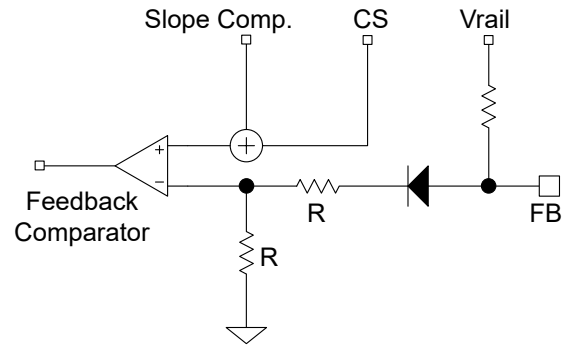

Figure 25. Feedback Pin Internal Behavior Circuit
The Feedback (FB) pin is used for voltage feedback looping. The feedback signal is provided from the secondary-side shunt regulator (TL431) and transfer through the opto-coupler to FB pin of AOZ7501. There is a pull high resistor which is built-in the AOZ7501, as shown in Figure 25. The gain to PWM comparator is 0.5V/V, and with one diode offset. The gain of feedback loop will be decreased due to the large pull high resistor. The design of the feedback compensation circuit should be given extra attention.